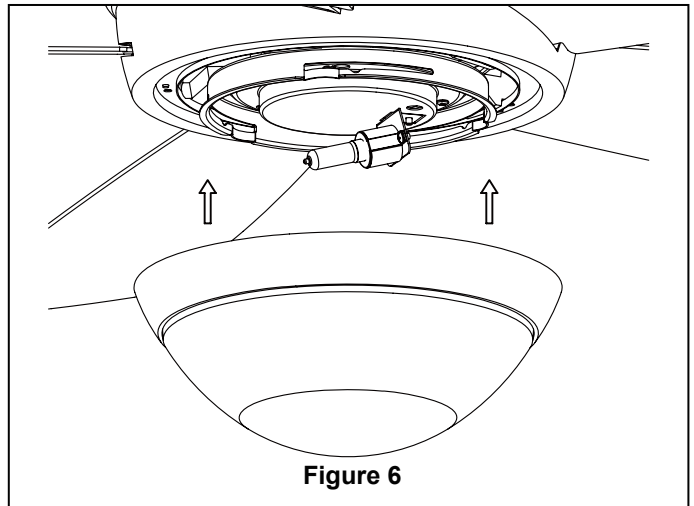

Figure 6
10. Slide the Motor Coupling Cover down until it touches the top of the Housing. (Figure 6)
6. Carefully install the Glass/Frame Light Kit Assembly into the Adapters' slots. (Figure 6)